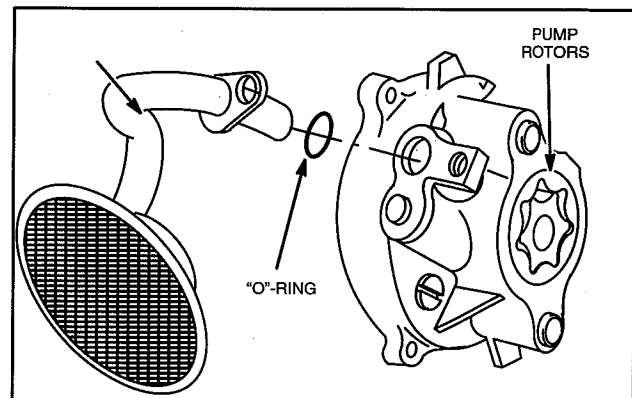

Fig. 25 – Remove Oil Pick Up Tube
2. Remove oil pick-up tube and screen assembly, Fig. 25.